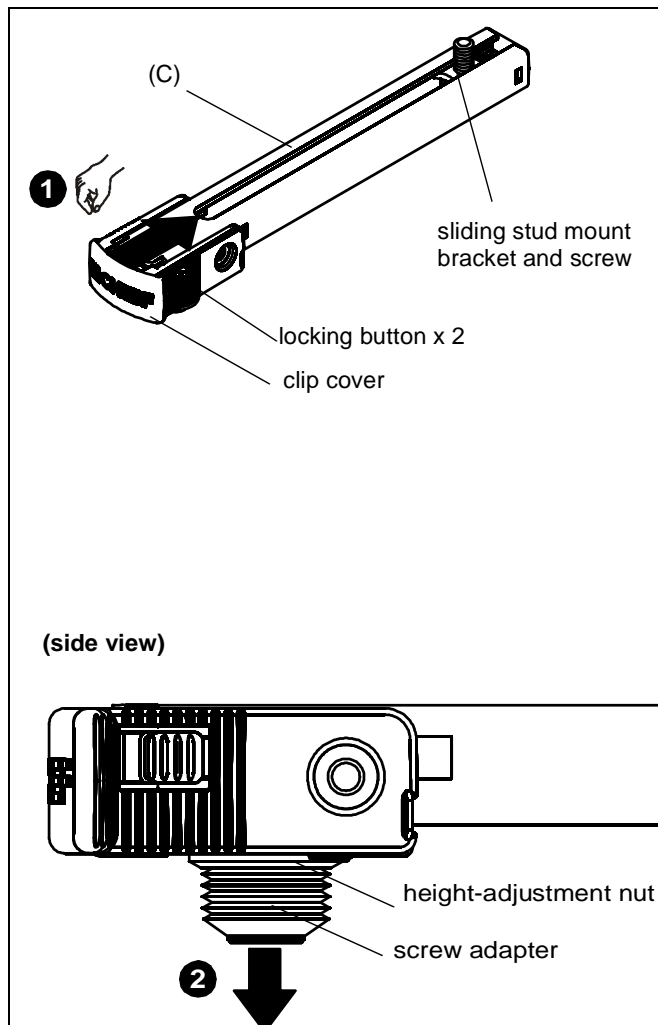

Figure 1
1. Press locking buttons on SSBU/SSMU leg (C) firmly and simultaneously push clip cover toward enclosed sliding stud mount bracket and screw. (See Figure 1)
2. Screw adapter and attached height-adjustment nut will be released. Set aside for later use. (See Figure 1)